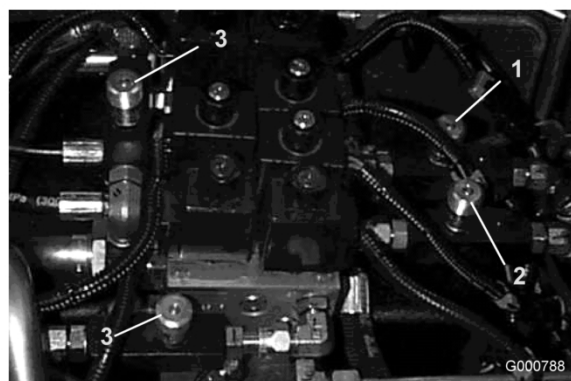

Figure 74
1. Locate valves under seat for adjusting front cutting units (Figure 74).
9. Locate valves under seat for adjusting wing cutting units (Figure 74).